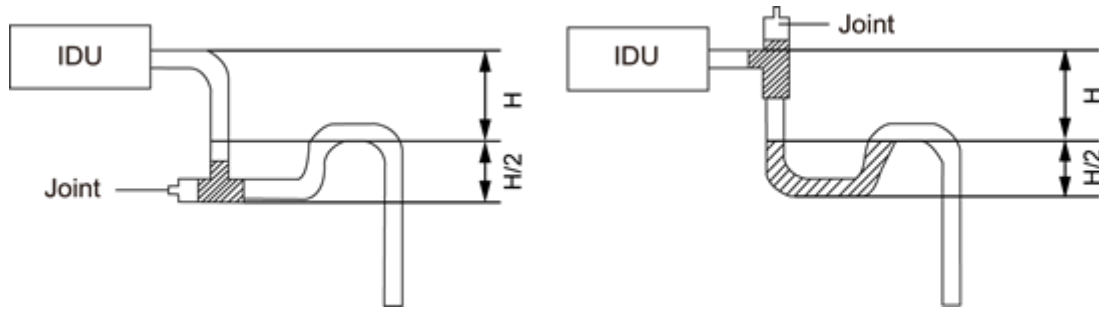

Fig 4.3.5
- (5) Install the trap as shown in following Fig 4.3.5.
- (6) Install one trap for each unit.
- (7) Allow clearance for cleaning trap.